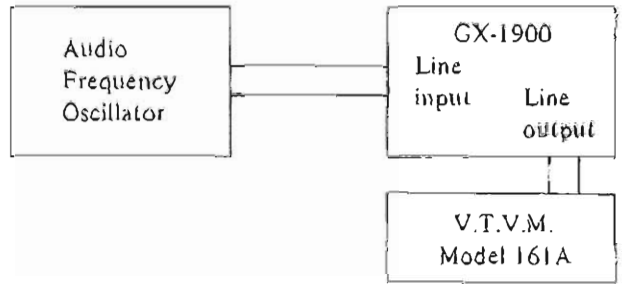

Fig. 16
1. REEL PLAYBACK LEVEL ADJUSTMENT (See Figs. 16 & 17)
2. REEL RECORDING LEVEL ADJUSTMENT (See Figs. 16 & 17)